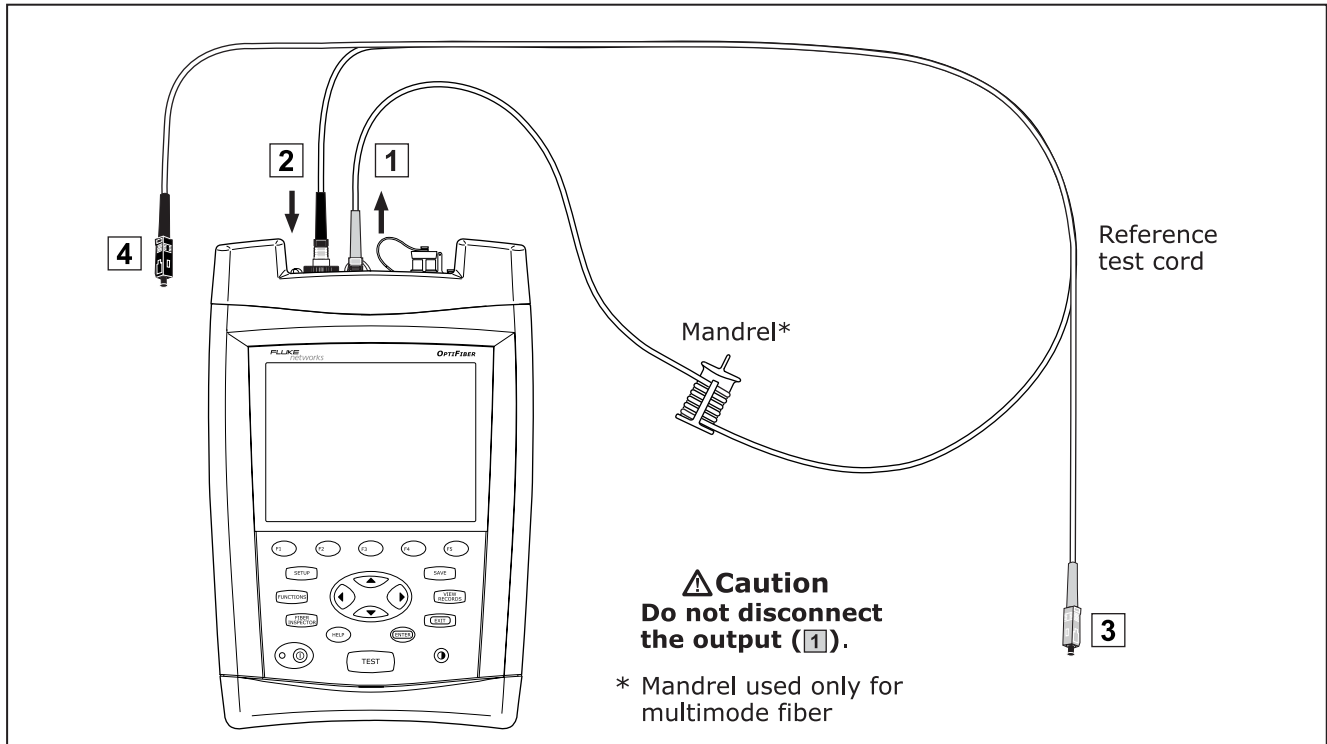

Figure 28. Loopback Mode Reference Connections
- 6 Press **FUNCTIONS**; then select **Set Loss/Length Reference**. Connect the reference test cords as shown on the screen and in Figure 28; then press **ENTER**.